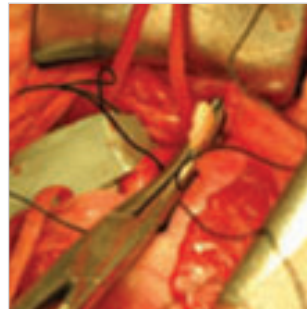

Fig. 3: Positioning the liner around the vessel.
- d) Tie a suture laterally around the latex "leader" to secure it on the liner (Fig. 3).